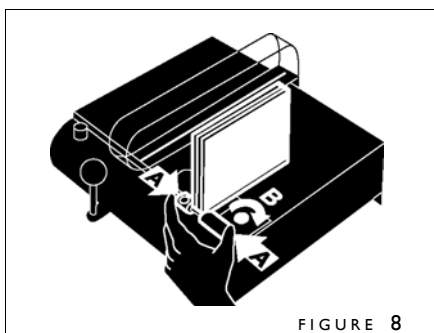

FIGURE 8
2. After it has cooled, place your bound book block between the Book Thickness Rings (figure 8). Push the two rings together (A) and tighten the Book Thickness Locking Knob (B). Remove your book block.